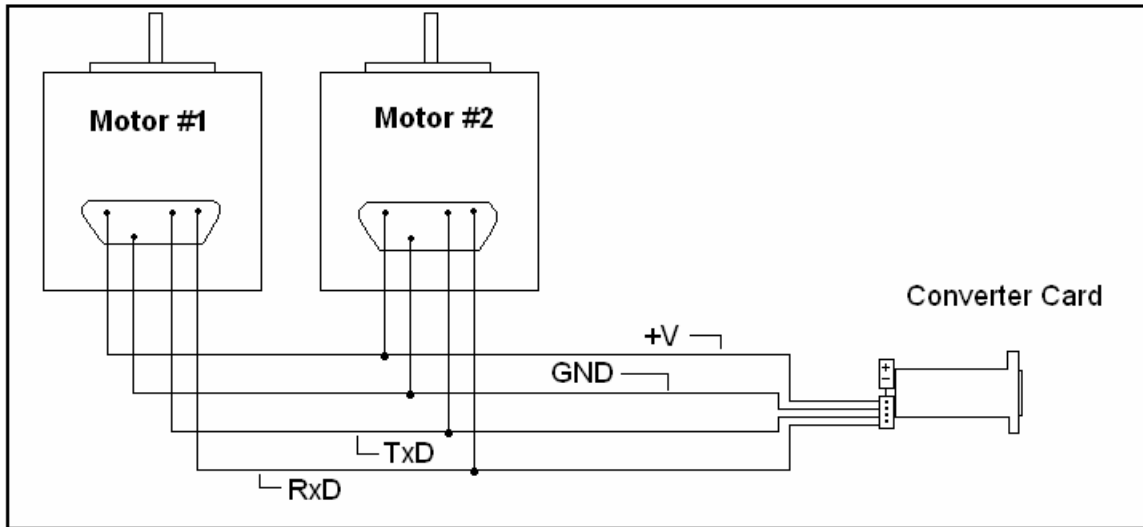

Figure 4.8
- Figure 4.8 shows a basic schematic of the connections between two motors and the converter card